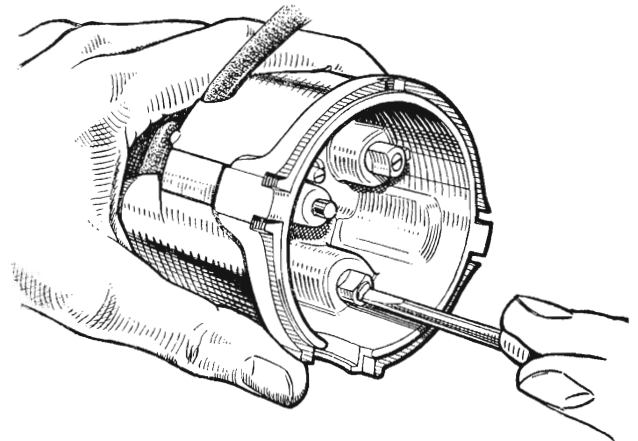

Fig. B.7. Securing the high tension cables to the distributor cap.
- (1) Thread the cable through the moulded terminal and brass washer and bend back the bare strands of the cable against the brass washer.
- (2) Push the other end of the cable into the distributor cover and secure it with the pointed screw, Fig. B.7.
- (3) Install the cables in the coil and distributor cover and onto the sparking plugs in the correct order. The firing order is 1, 3, 4, 2 following round in an anti-clockwise direction.